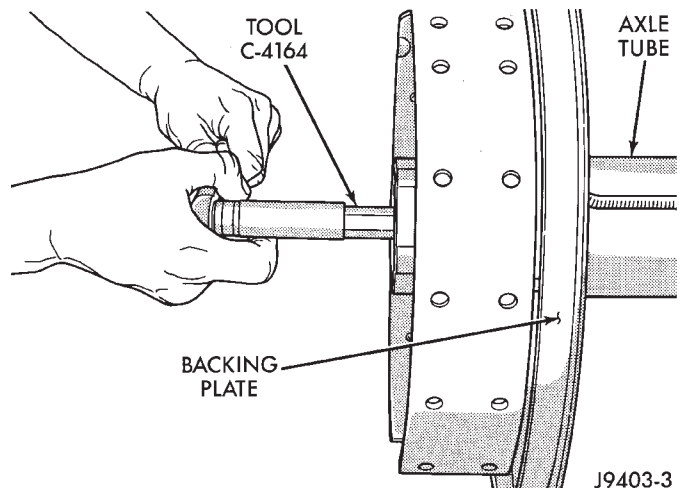

Fig. 57 Threaded Adjuster Tool
(1) Use Wrench C-4164 to adjust each threaded adjuster inward until the differential bearing free-play is eliminated (Fig. 57). Allow some ring gear backlash (approximately 0.01 inch/0.25 mm) between the ring and pinion gear. Seat the bearing cups with the procedure described above.